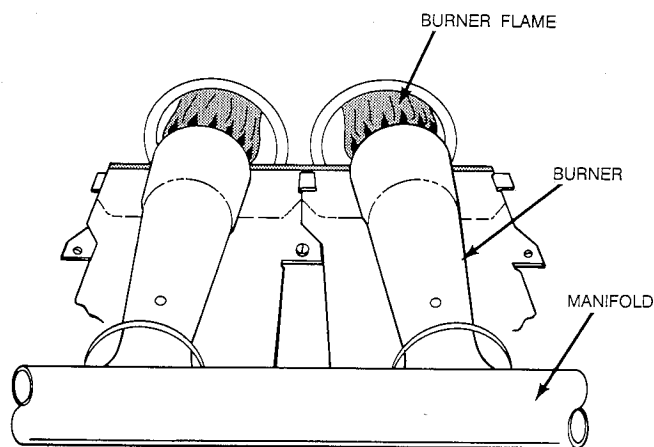

Figure 15—Burner Flame A89020
- (3.) When correct input is obtained, replace regulator seal cap. Main burner flame should be clear blue, almost transparent. See Figure 15.